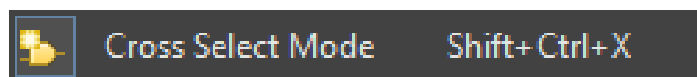

Figure 13. *Cross Select* mode enabled
41. Ensure that **Cross Select Mode** is enabled, indicated by its blue highlight in **Tools » Cross Select Mode** (as shown in Figure 13 below). If it's not enabled, click the icon to enable it.